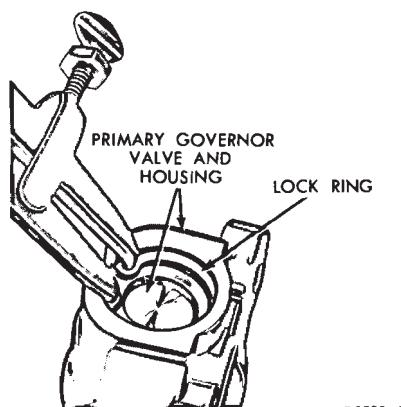

FIG. 94—Removing or Installing Retaining Ring
3. Remove the primary governor valve retaining ring (Fig. 94). Remove the washer, spring, and primary governor valve from the housing.